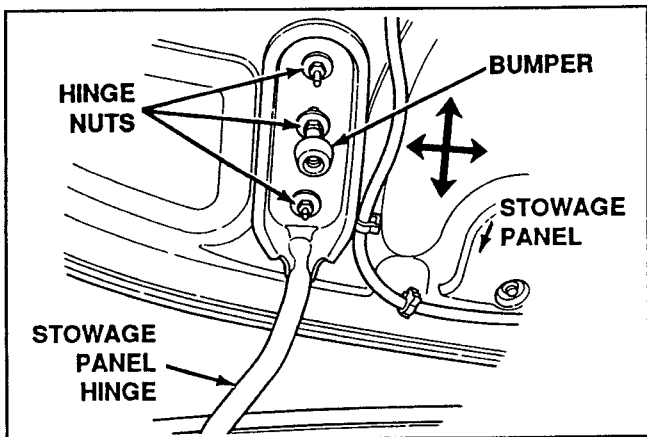

Figure 50. Adjust Stowage Panel
5. The stowage panel to quarter panel gap is 7 mm. The stowage panel to deck lid gap is 5 mm. Tighten the nuts (Fig. 50).